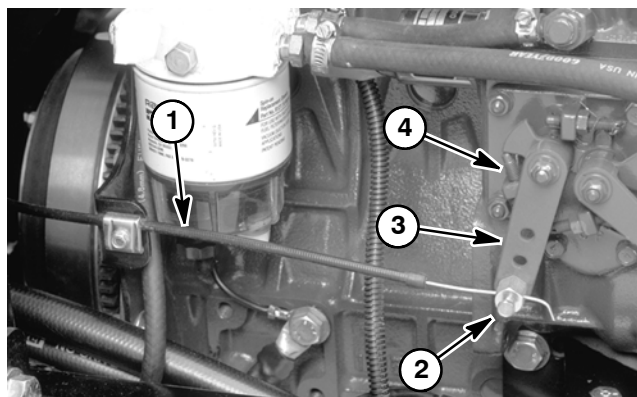

Figure 6
3. Loosen cap screw securing the throttle cable to the swivel enough to loosen the cable (Fig. 6).
4. Hold speed control lever on the injection pump against the low idle stop. Tighten cable to the swivel with cap screw (Fig. 6).